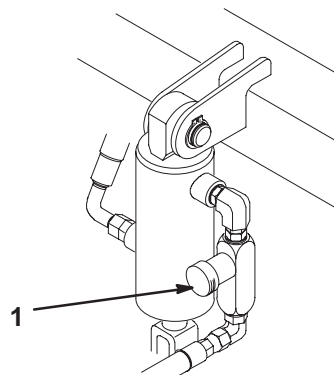

Figure 44
The cutting unit lift/drop circuit is equipped with a flow control valve (Fig. 44). This valve is preset at the factory at approximately 3 turns open, but an adjustment may be required to compensate for differences in hydraulic oil temperatures, mowing speeds, etc. If an adjustment is required, proceed as follows:
1. Raise the seat and locate the flow control valve (Fig. 44) mounted to the hydraulic cylinder for the center pull frame.